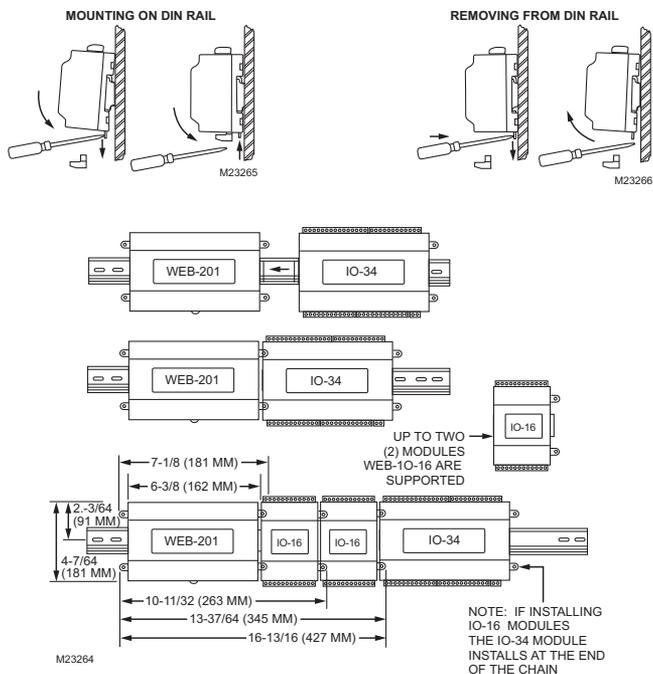

Fig. 2. IO-34-H Module mounting details.
- DIN rail, type NS35/7.5 (35 mm x 7.5 mm) recommended for mounting with WEB-201 controller. The DIN rail should be sufficient length to accommodate both the controller and IO-34-H module. See Fig. 2.
NOTE: If installing the controller and IO-34-H module at the same time, refer to the WEB-201 or WEB-600 INSTALLATION INSTRUCTIONS guide literature to install the WEB-201 or WEB-600 controller. In this case, the IO-34-H module is typically the "approved power source", used *in place* of a WEB-NPB-PWR module. A maximum of 2 additional IO-16-H modules are supported. See Fig. 2.
DIN MOUNTING IS RECOMMENDED OVER TAB MOUNTING. SEE FIGURE 2.
Step 2	Position the IO-34-H module on the rail, tilting to hook DIN rail tabs over one edge of the DIN rail. (See Fig. 2)
NOTE: To remove IO-34-H module from DIN rail, slide it away from other modules. Insert a screwdriver in the center plastic locking tab and pull downwards, then lift the unit outwards. It may be necessary to remove an I/O connector plug as shown at the top of Fig 2.